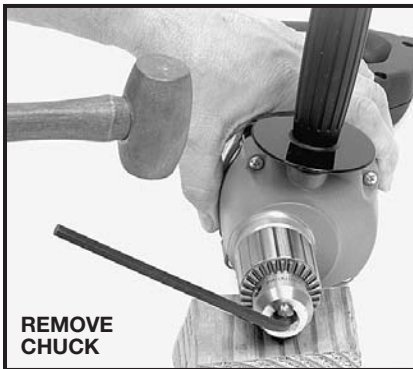

Fig. 4
4. Remove chuck: place the short end of a large hex wrench ($\frac{1}{4}$ " or larger) into the chuck. Align wrench flats with chuck jaws and tighten chuck securely using chuck key. While supporting chuck on a solid surface, position hex wrench to left (see Fig. 4) and strike wrench a sharp blow with a hammer to loosen chuck. Turn chuck counterclockwise to remove.